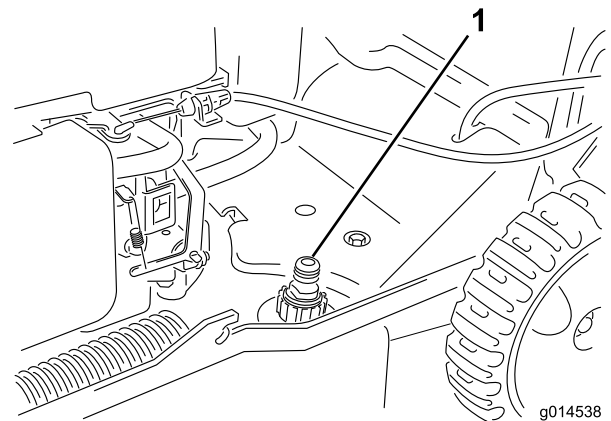

Figure 27
3. Attach a garden hose that is connected to a water supply to the washout port on the mower housing (Figure 27).